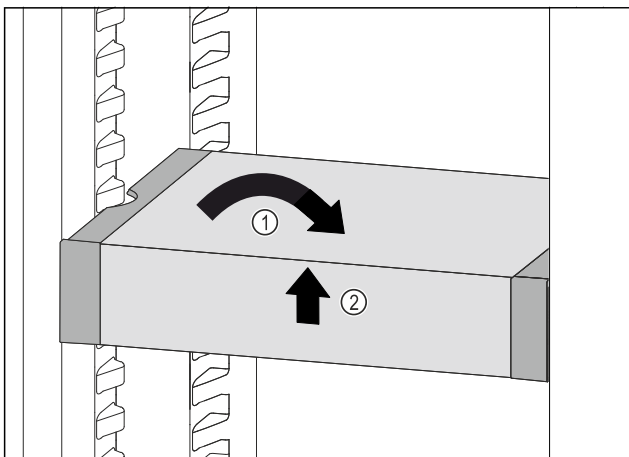

Fig. 179
- ▶ Set VarioSafe straight. Fig. 179 (1)
- ▶ Lift VarioSafe at the front. Fig. 179 (2)